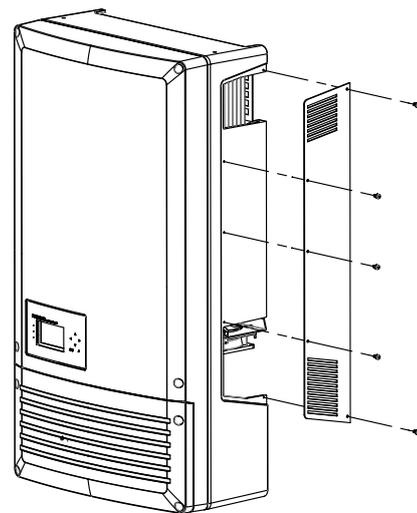

Fig. 15: Removing the side housing cover
3. Unscrew the Torx screws of the side housing cover (figure 15 on page 42).